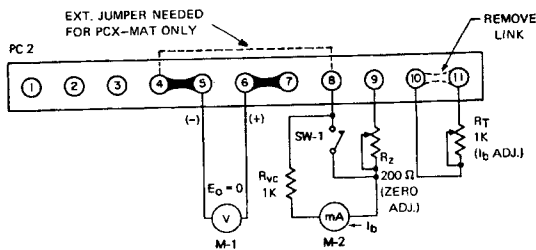

FIG. 3-4 PROGRAMMING RATIO CALIBRATION METHOD #1
- Connect calibration set-up as shown in FIG. 3-4.